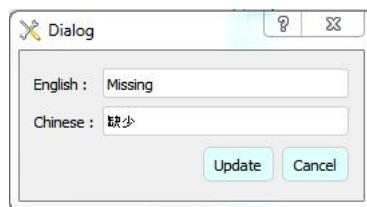

Figure 101: Update for defect details
- V. After editing the “defect name” or “repair action”, click “Update”, refer Figure 101.